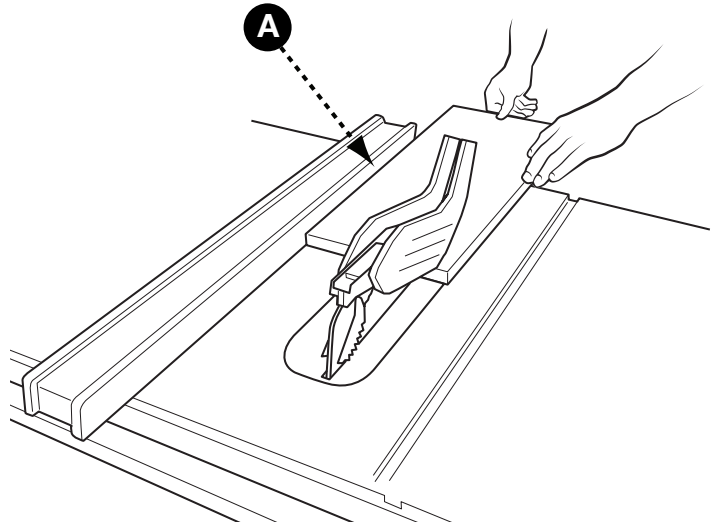

FIGURE 23
8. Hold the workpiece flat on the table and against the fence (A). The workpiece must have a straight edge against the fence and must not be warped, twisted or bowed. See proper hand position in (Fig. 23).